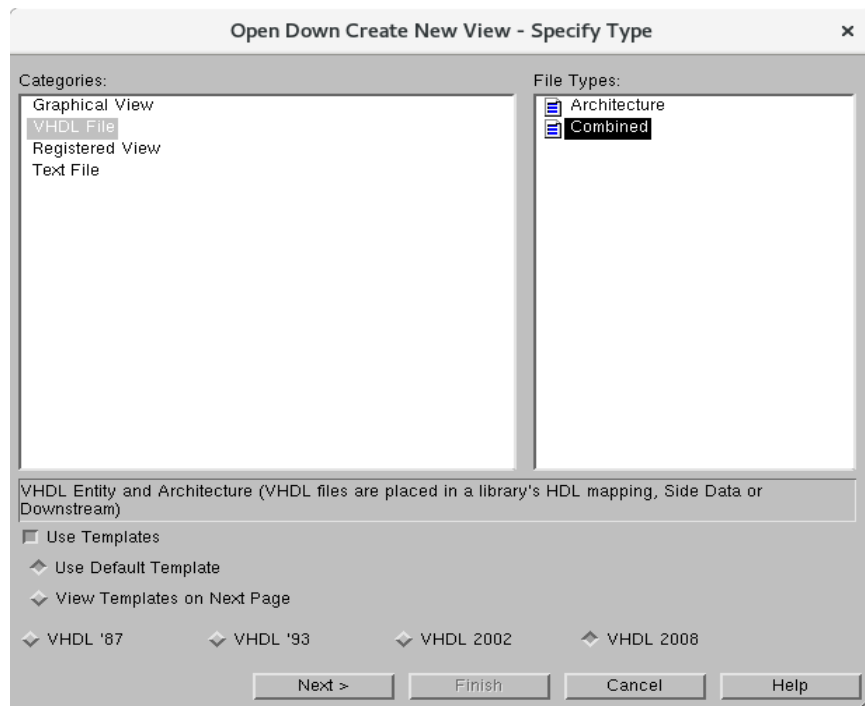

Figure 17 Open Down Create New View, add a VHDL combined view
2. We reach the window in Figure 17, “Open Down Create New View, add a VHDL combined view”. Select VHDL File and Combined file type. Select also VHDL 2008. Press next.